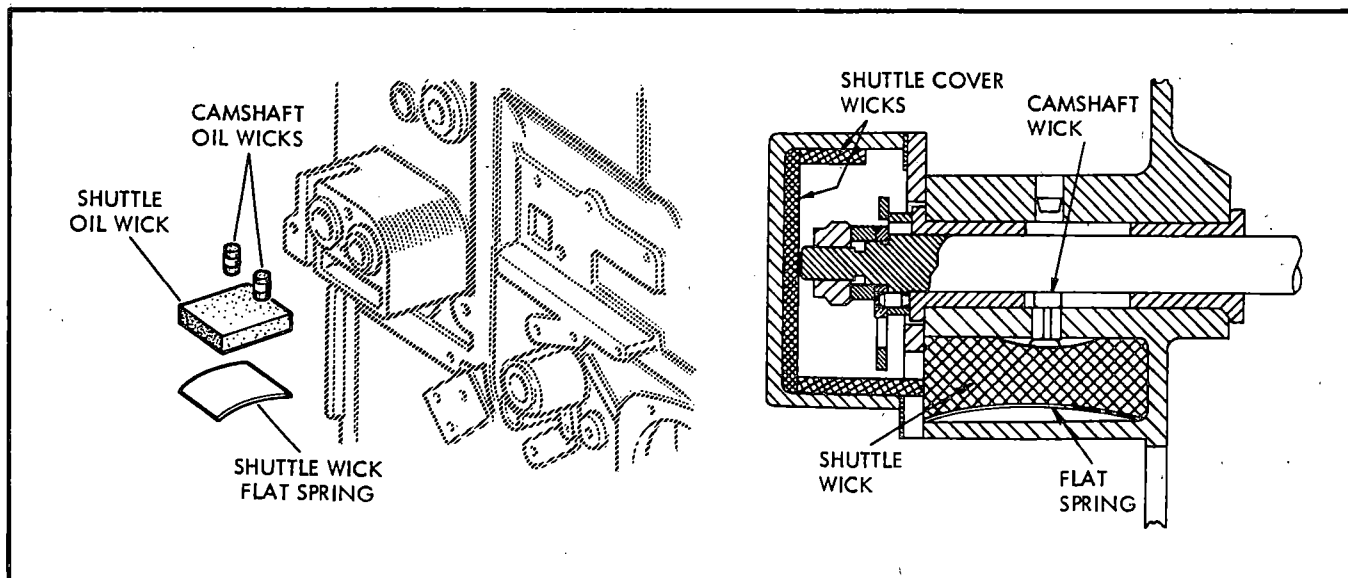

Figure 38. Lubrication System for 614CD Intermittent Mechanism
shuttle oil wick (item 69, Parts Catalog figure 18) and two camshaft wicks (item 71, Parts Catalog figure 18). These kit parts have been properly pre-lubricated. Figure 38 illustrates the proper installation of camshaft and shuttle wicks.